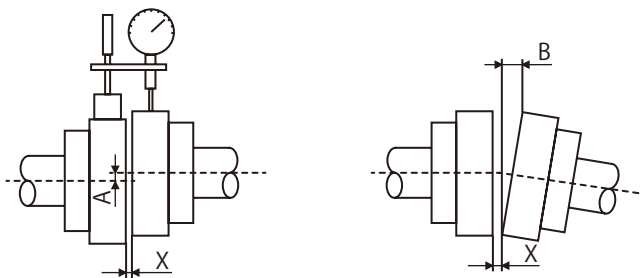

Fig. 5-2
- The dimensions (A, B and X) illustrated in Fig. 5-2 must be within the tolerance shown in Table 5-1.